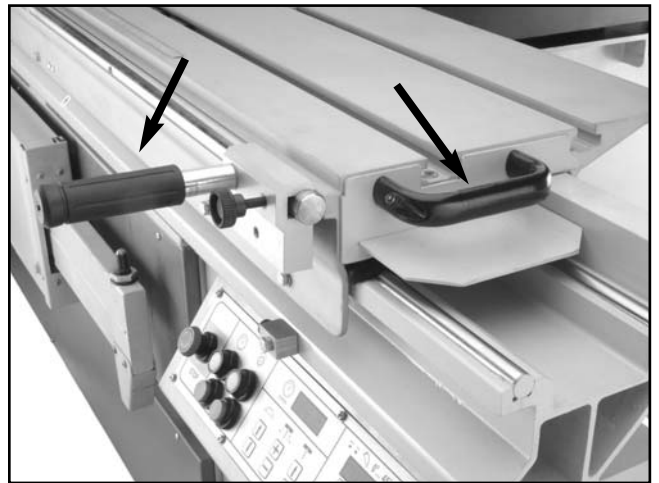

Figure 29. Sliding table handles.
14. Install the sliding table handles and end cap (shown in **Figure 29 & 30**) with two flat head screws per each, securing from the top of the table.